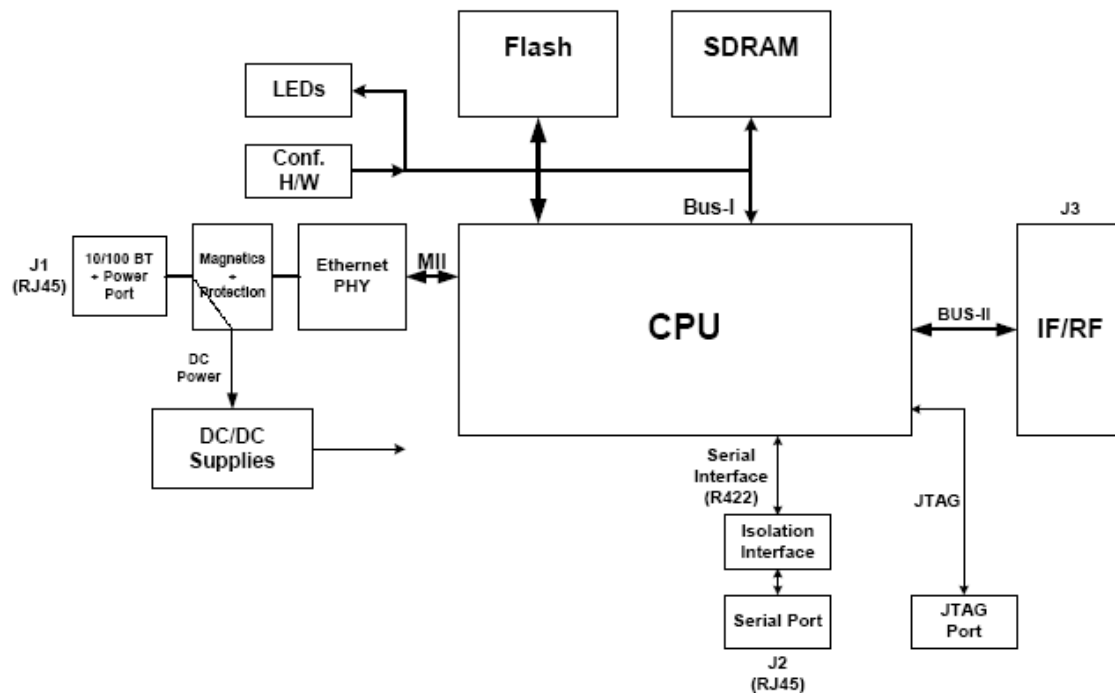

Figure 1-4. ODU Block Diagram
- **Outdoor Unit (ODU):** An enclosed aluminum frame with a front sealed plastic cover, containing an integrated transceiver with an antenna, RF module, modem and standard interfaces. The ODU stores all the configuration parameters of the Airmux-200 system. Figure 1-4 shows the ODU block diagram.